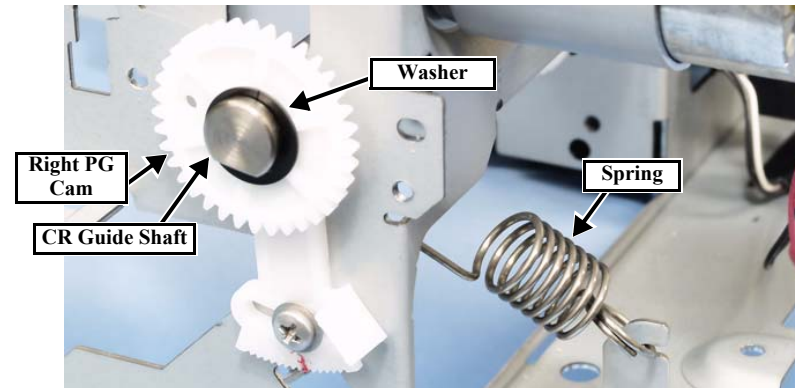

Figure 4-73. Removing the Carriage Assy (at right side)
9. At the right side of the printer, remove the spring, remove the washer, and the Right PG Cam. (Fig. 4-73)